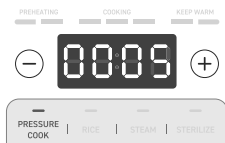

Figure 4.3
3. Select **PRESSURE COOK** and press the **-** or **+** buttons to adjust the time. [Figure 4.3]